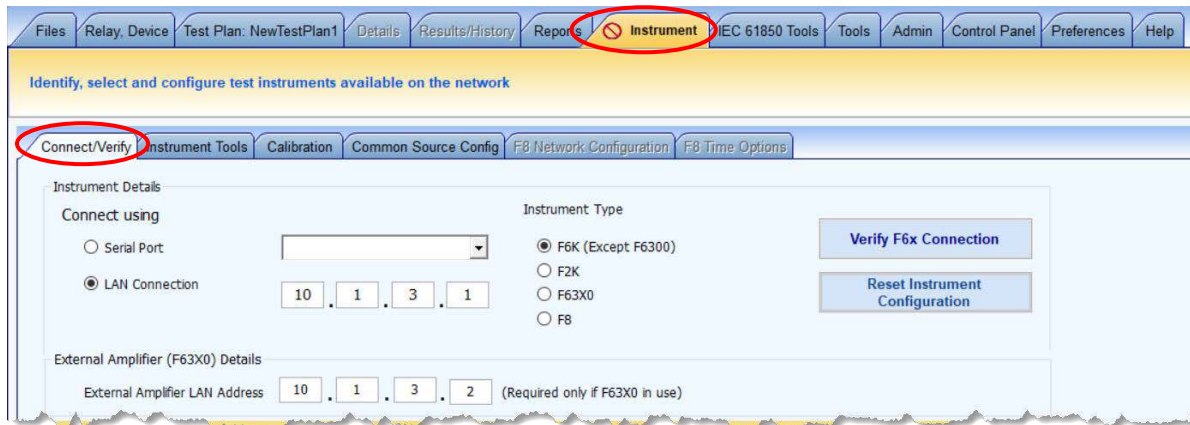

Figure 4. Connect to the F6150 instrument
16) Navigate to Instrument > Connect, Verify (format is “top tab > bottom tab”) (see Figure 4)